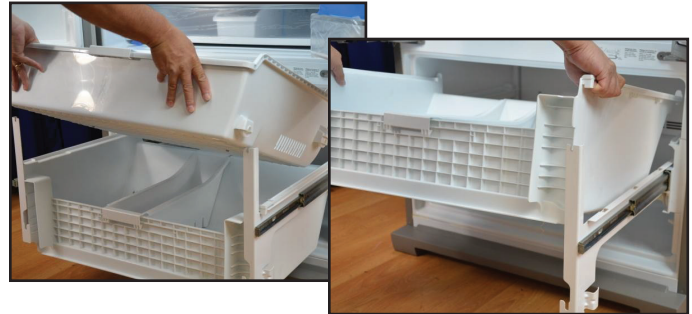

FIGURE 2
4. With a basket stop removed, pull out both baskets. Lift out the upper basket. Push the lower basket toward the rear slightly to disengage the hooks and lift out. See *Figure 2*.